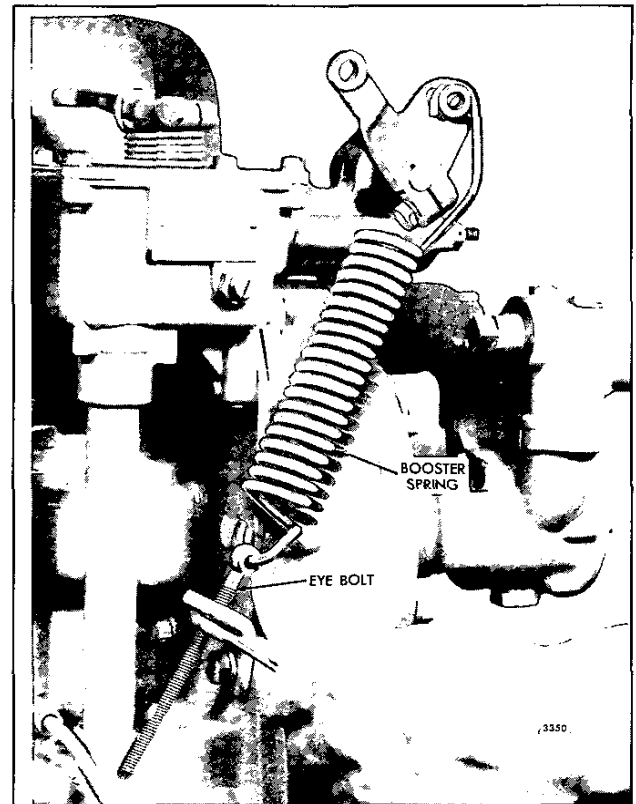

Fig. 8 – Adjusting Booster Spring
2. Refer to Fig. 8 and loosen the booster spring retaining nut on the speed control lever. Loosen the locknuts on the eyebolt at the opposite end of the spring.